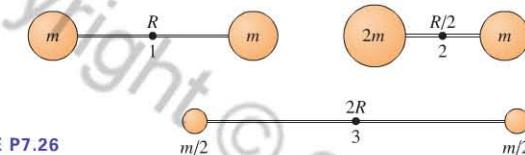

FIGURE P7.26
26. **II** Three pairs of balls are connected by very light rods as shown in Figure P7.26. Rank in order, from smallest to largest, the moments of inertia  $I_1$ ,  $I_2$ , and  $I_3$  about axes through the centers of the rods.